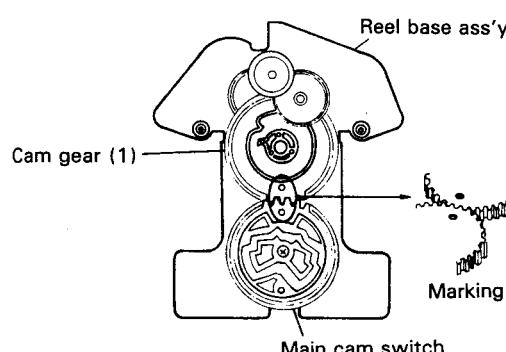

Fig. 8
1. Remove two screws ⑦ and five screws ⑧ securing the reel base.
- \* Reassembling the cam gear (Fig. 8)
- Mesh the gears so that the marking provided on cam gear (1) is aligned with the marking on the main cam switch.